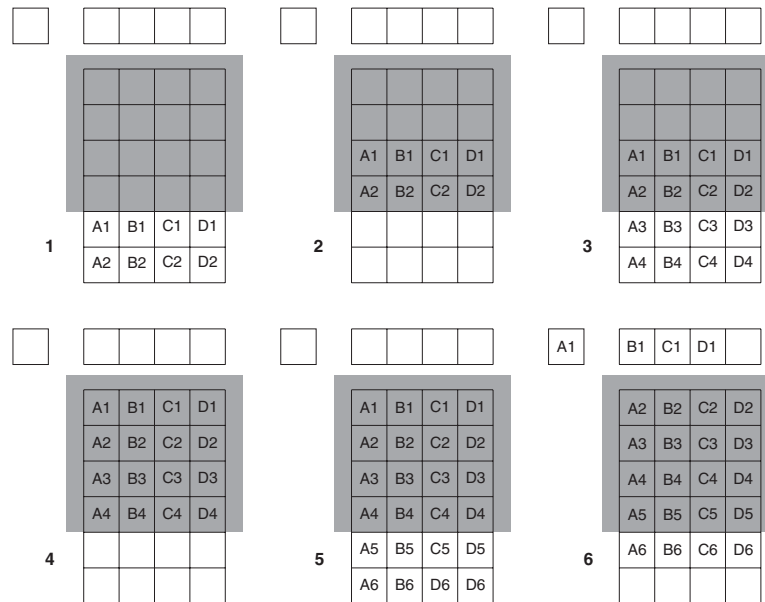

Figure 43. Kinetics Readout
Below is a simplified illustration of kinetics mode. Returning to our  $4 \times 6$  CCD example, in this case  $2/3$  of the array is masked, either mechanically or optically. The shutter opens to expose a  $4 \times 2$  region. While the shutter remains open, charge is quickly shifted just under the mask, and the exposure is repeated. After a third image is collected the shutter is closed and the CCD is read out. Since the CCD can be read out slowly, very high dynamic range is achieved. Shifting and readout are shown in Figure 43.
**Example:** Referring to the readout shown in Figure 43, there are 6 pixels perpendicular to the shift register and the Window Size is 2 pixels high. The number of frames is 3. If the Vertical Shift Rate for the CCD is  $1.6 \mu\text{sec}/\text{row}$ , the Shift time will be  $3.2 \mu\text{sec}$  per frame.